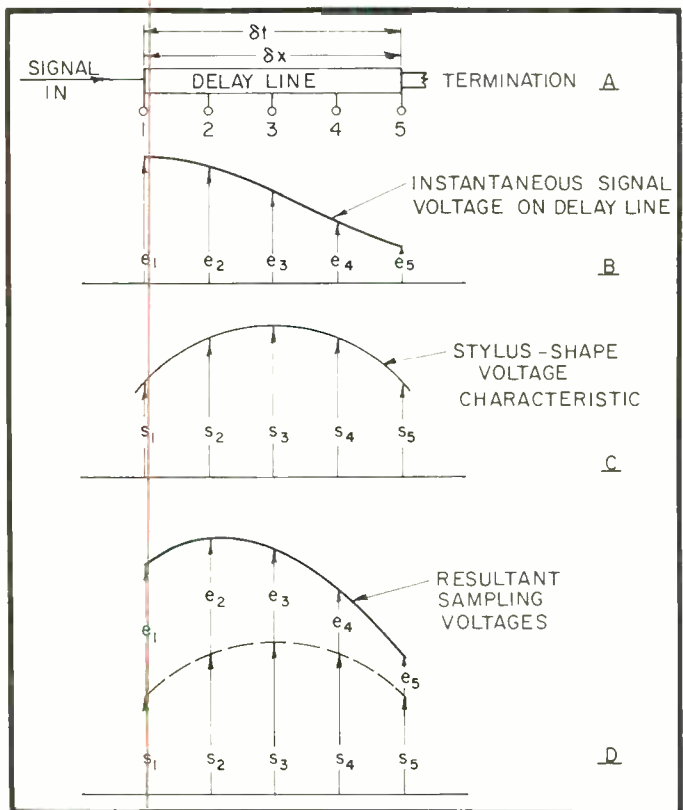

Fig. 5. Diagrammatic representation of the use of a tapped delay line for simulating tracing distortion.
In the distortion-simulation device a signal voltage proportional to the modulation displacement is provided. This signal is then displayed and sampled over a segment of time, δt , determined by the stylus size and the groove velocity. A tapped delay line is used for this display and sampling process. If the total delay time of the line is δt , a segment of the signal of this duration will be present in the line at any given instant. This segment may be sampled at various points along the line as indicated in (A) and (B) of Fig. 5. For purposes of illustration, five equally-spaced sampling points are shown.